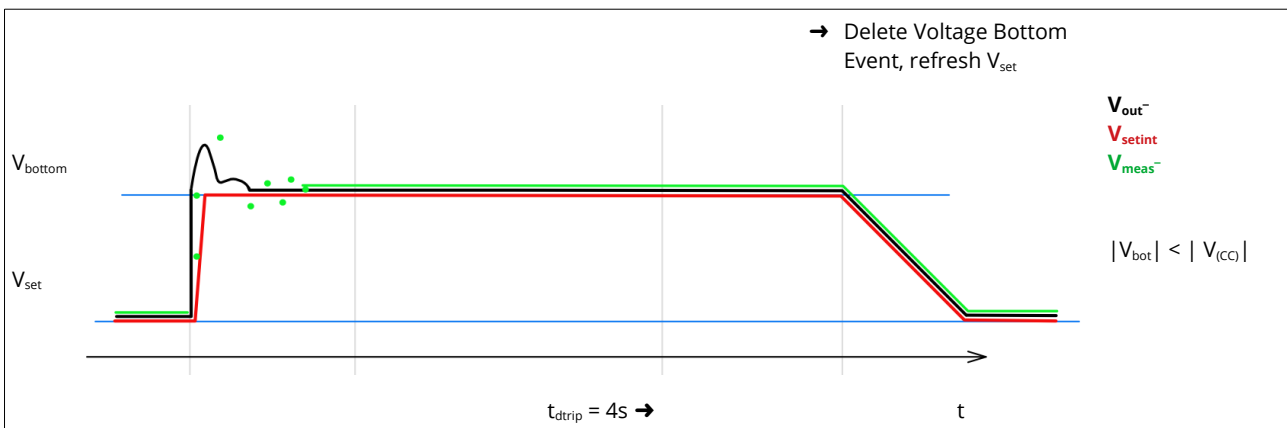

Figure 4: Discharge with $|V_{\text{bottom}}| < |V_{\text{CC}}|$, shown for a channel with negative output voltage
a) If the absolute value of the specified bottom voltage is below the voltage resulting in the constant current mode ($|V_{\text{bottom}}| < |V_{\text{CC}}|$), the channel will immediately return to constant voltage (CV) operation, at the bottom voltage. In this case no further reaction takes place, see Figure 4.